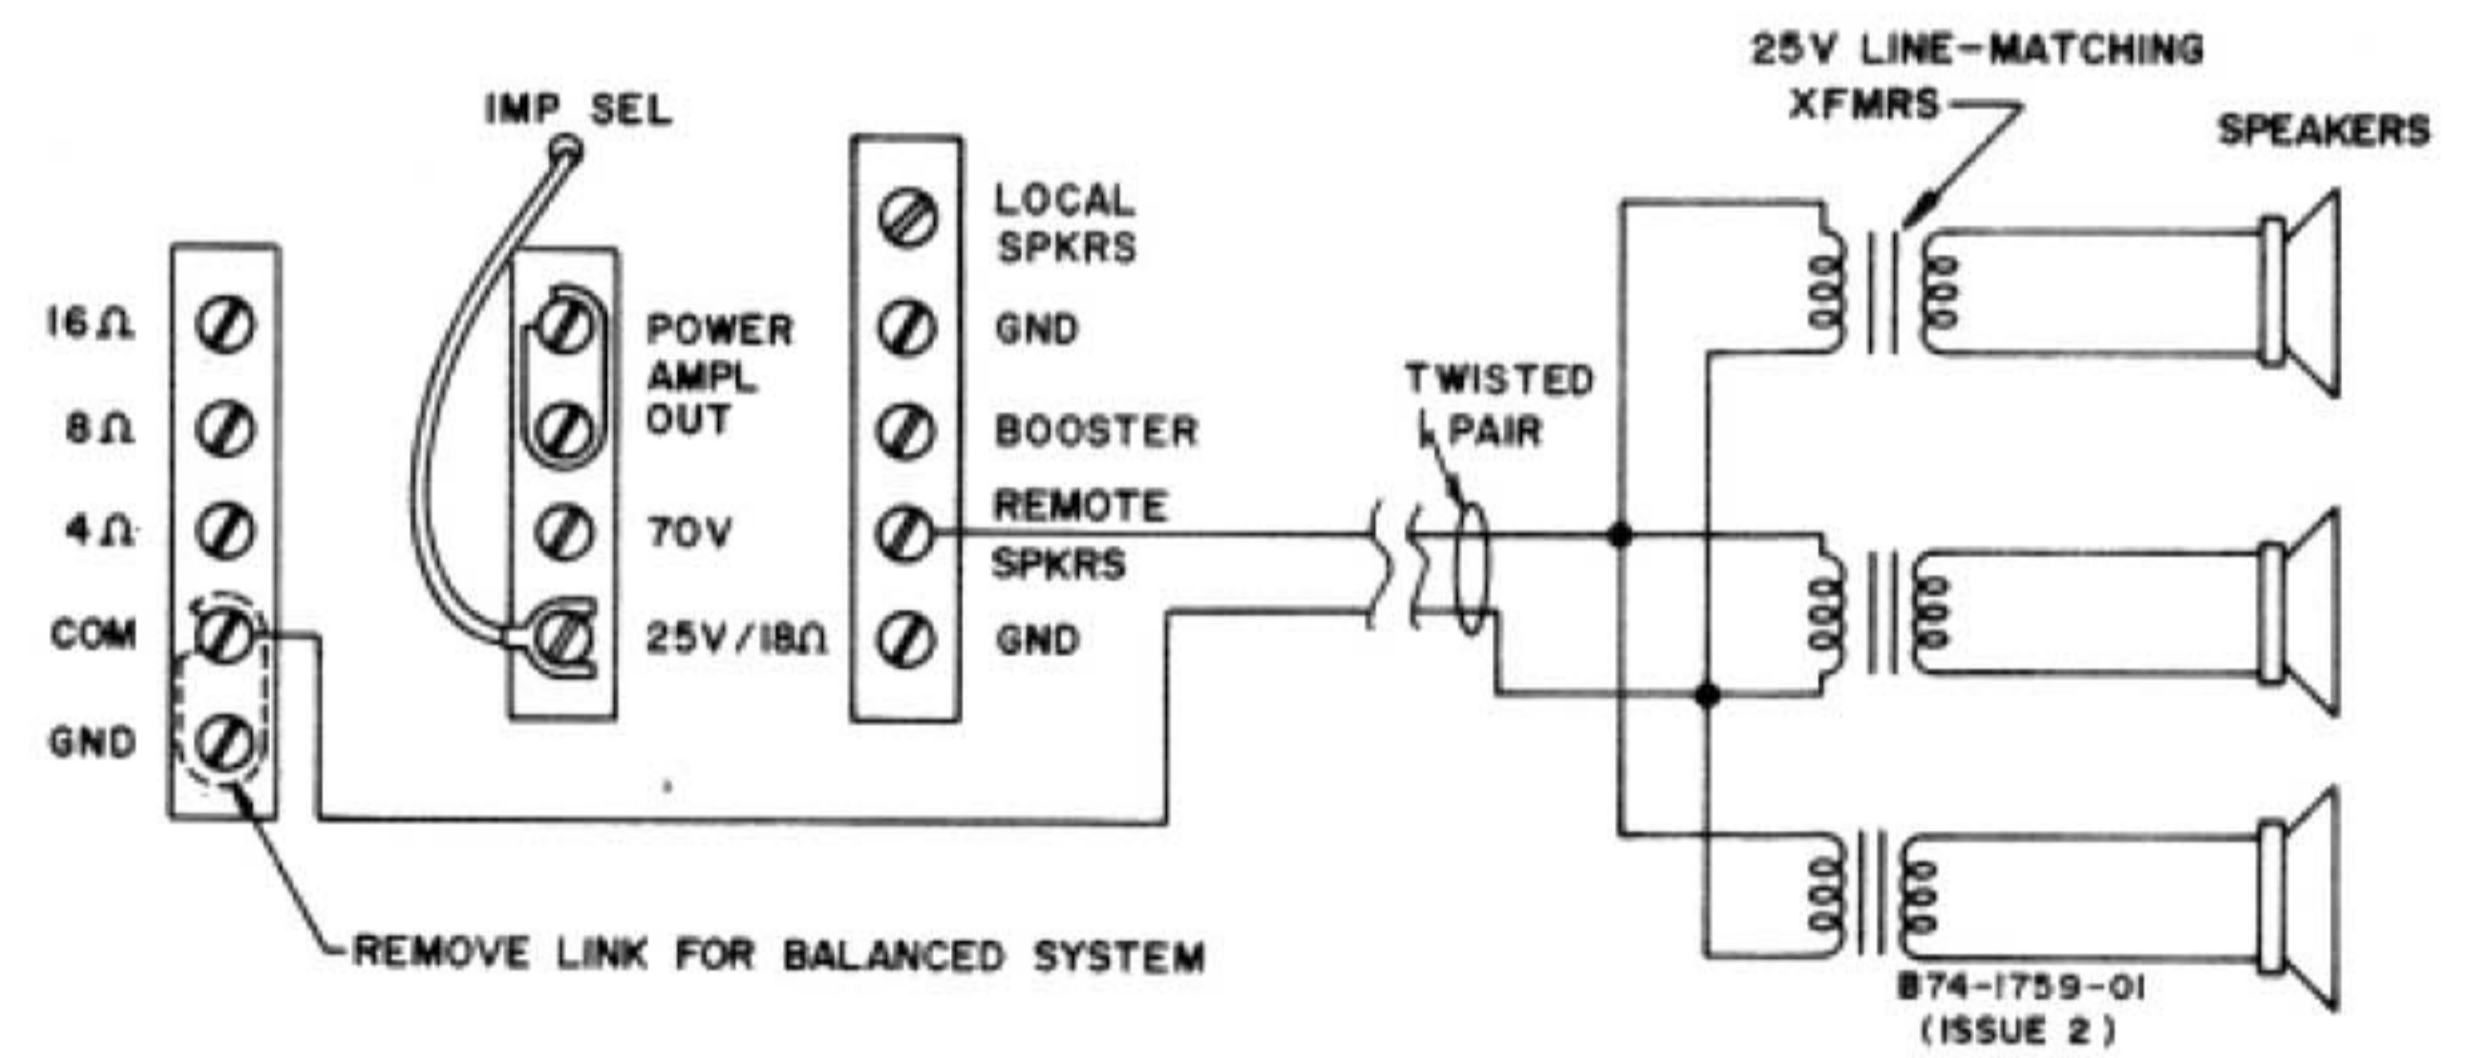

Figure 11 — Matching 25V Constant-Voltage System
1) Figure 11 shows how to connect to a 25 V constant-voltage system. The speaker leads may be connected to REM or LOC, as required.